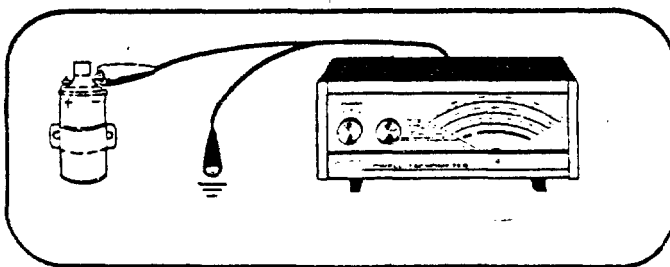

FIGURE 1 - BASIC TEST CONNECTIONS
b. Connect the RED test clip to the negative (-) terminal of the coil and connect the BLACK test clip to the engine ground (See Figure 1).